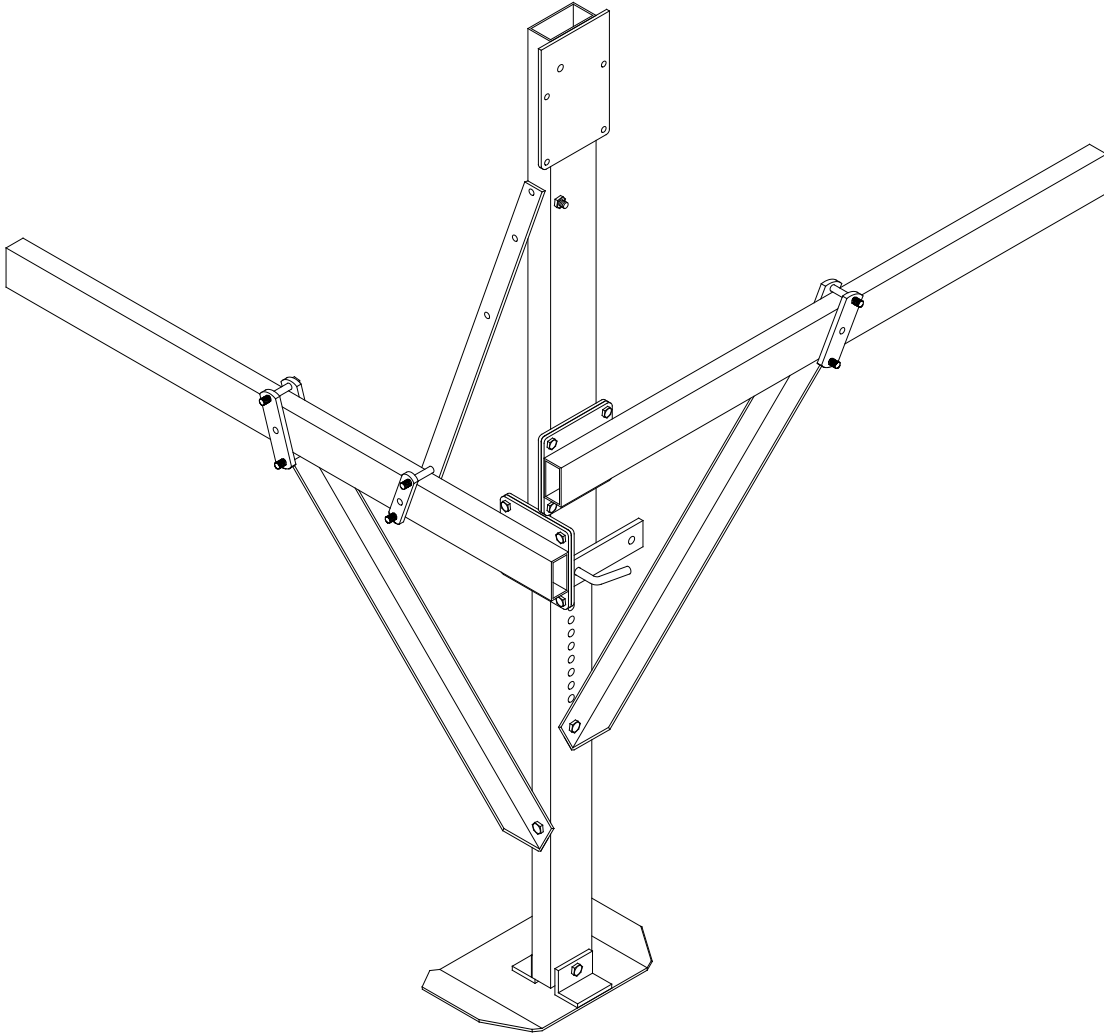

Figure 3-2.
1. Before moving lift to operating position, ensure the completed extension leg assembly appears as shown in **Figure 3-2** and all hardware is securely fastened.